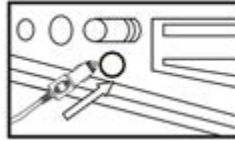

Figure 3
- The applied power source must be the 12V DC power source (as Figure 3).